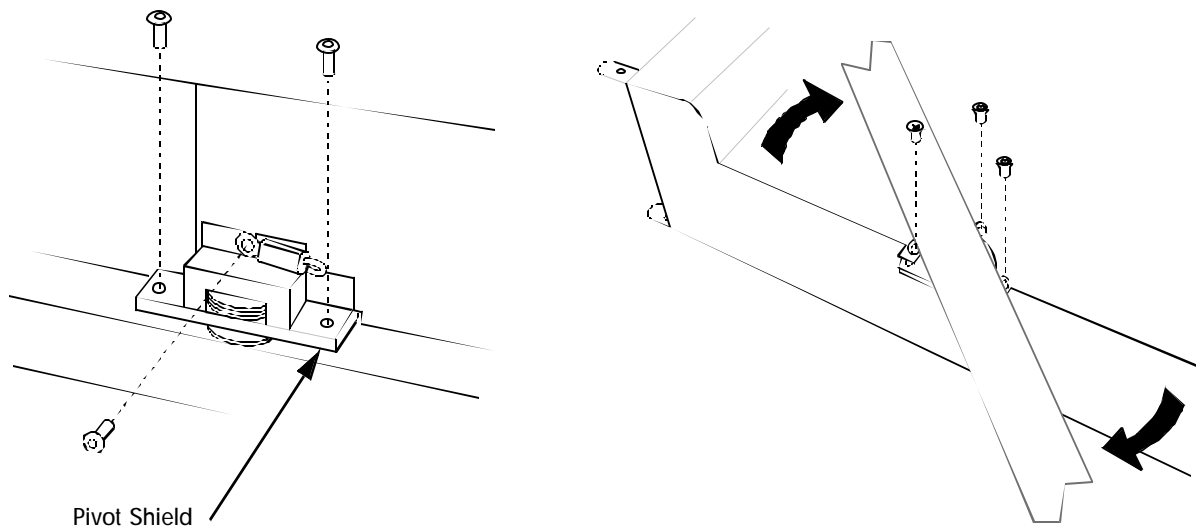

FIGURE 7. Removing the display assembly
2. Remove 3 phillips screws from the top of the pivot shield (Figure 7). You will need to rotate the touchscreen left and right in order to access all three screws.
4. Rotate the display to allow access to the 3 phillips screws on the bottom of the flange (Figure 7). Remove the 3 phillips screws.